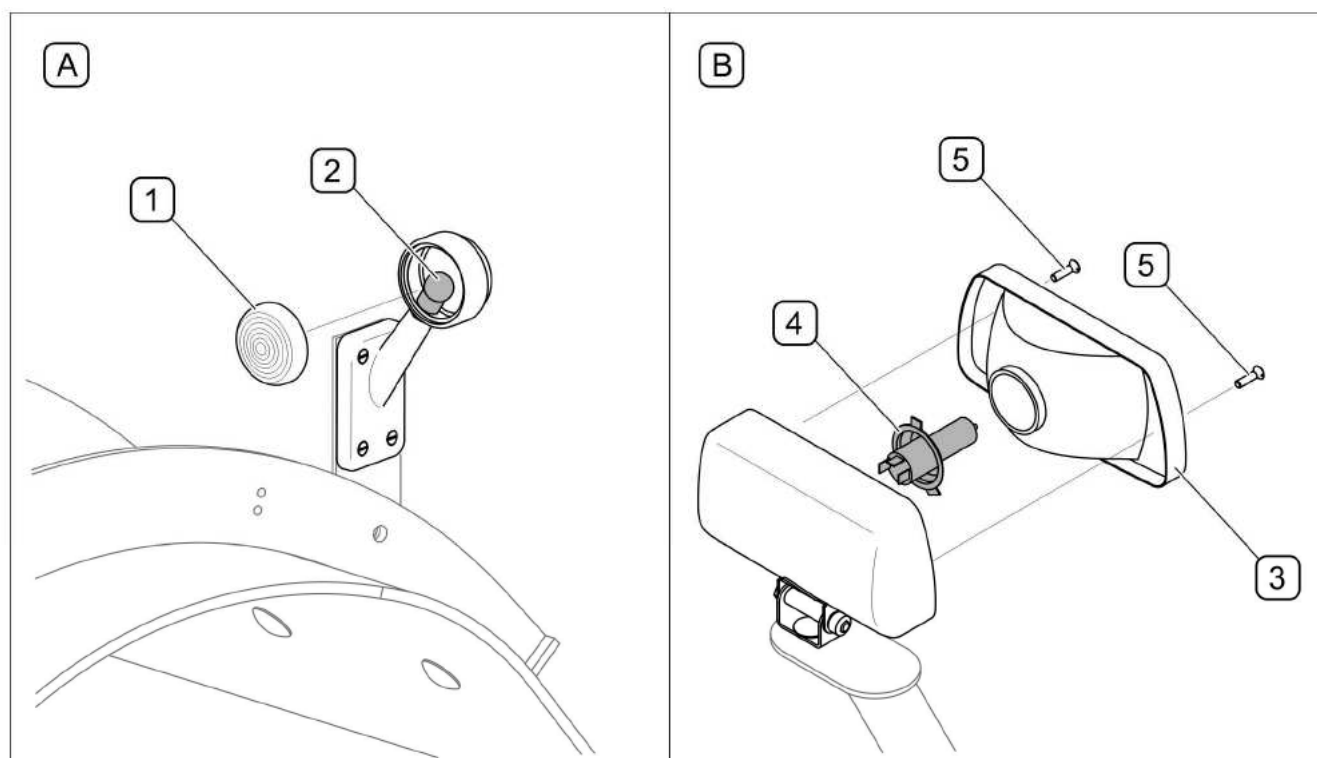

FIG. 5.4 Change bulbs
Electrical system maintenance is conducted during the periodical checking the operation of control and lighting system. To replace bulb (2) of clearance lamp (A), take out lens (1) from flexible housing (FIG. 5.4). Bulb (4) in additional light (B) is accessible after unscrewing screws (5) and removing lens (3). List of lighting elements is included in TAB. 5.4